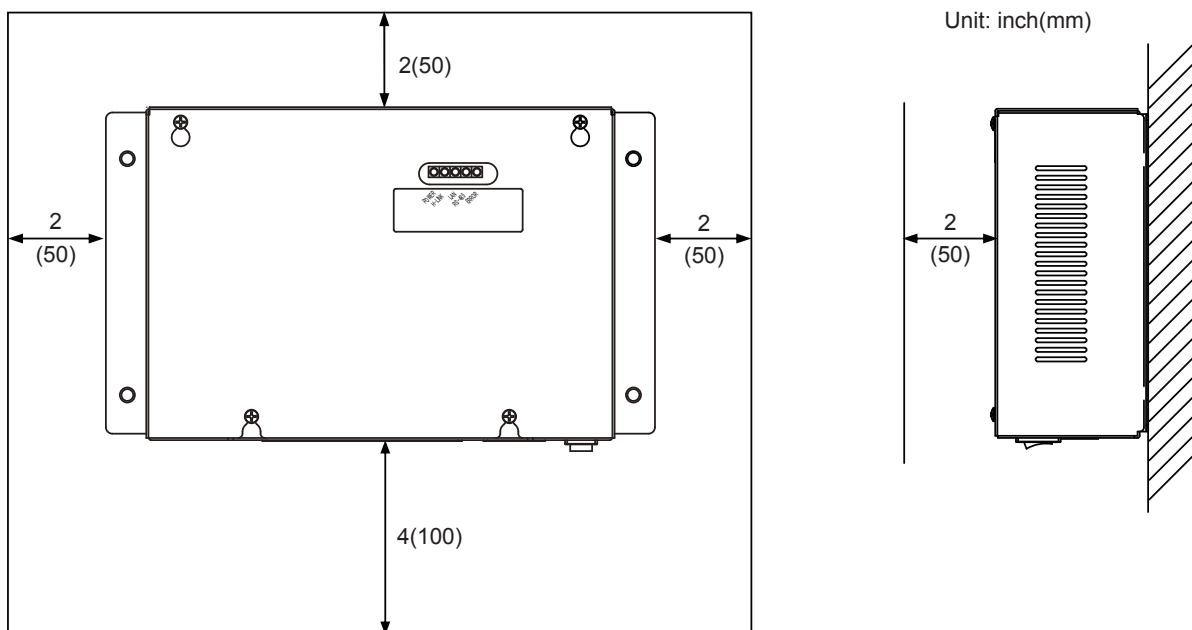

Figure 4.2: Installation Space
- ☐ (2) Secure free space as illustrated in Figure 4.2.